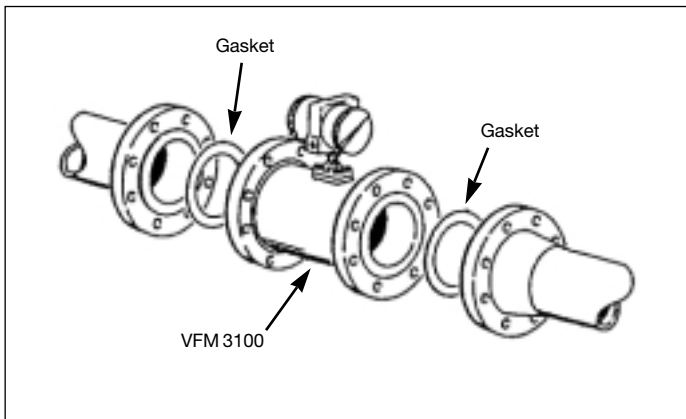

Figure 6. VFM 3100 F Installation
- Insert gaskets between body of VFM 3100 and adjacent flanges. See Figure 6. Position gaskets so that ID of each gasket is centered on ID of VFM 3100 and adjacent piping.